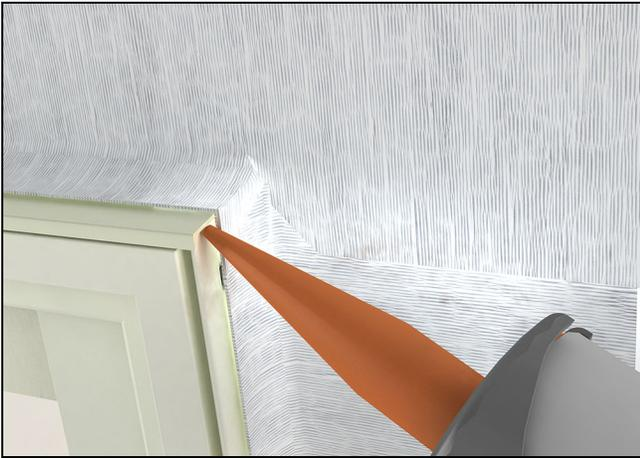

Figure 16
9. Seal the ends of the rigid head flash by injecting sealant at each end. See Figure 16.